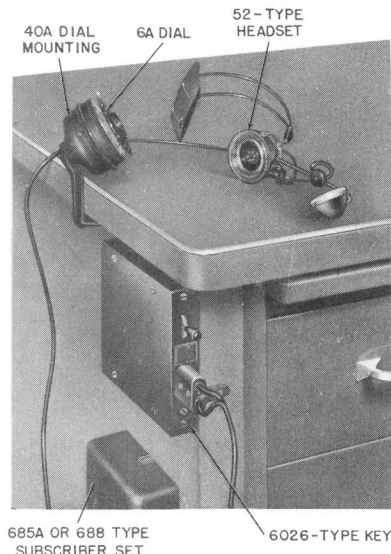

Fig. 1—Typical 4A Key Equipment Installation
2.01 The basic 4A key equipment (Fig. 1) consists of:
3.03 When installing the key on the side of a desk or table, the face of the key should be flush with the edge of the desk or table (Fig. 1).
- (a) For side of desk, where top overhang permits, attach a 40A dial mounting to the overhang (Fig. 1).